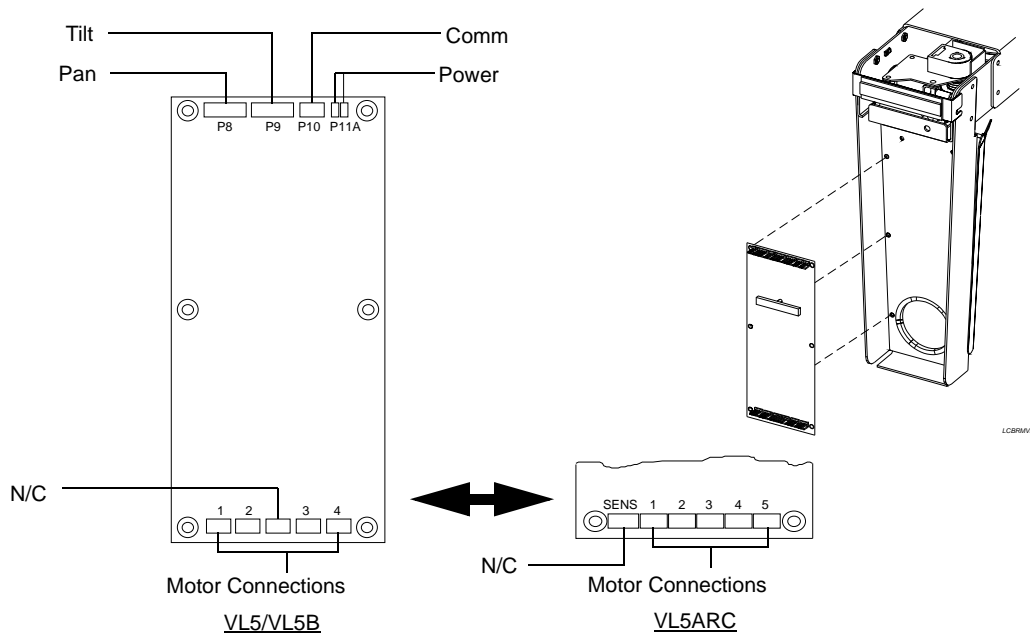

Figure 2-32: LCB PCB Replacement
- Step 3. At LCB, disconnect all cables. **Figure 2-32.**